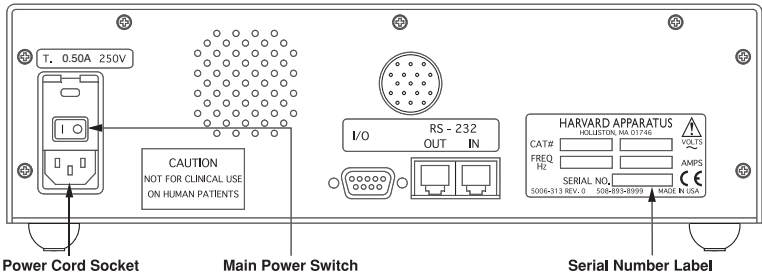

Figure 2a. Rear Panel: Power Entry and Serial Number Label
3. Take this opportunity to fill out and mail the Warranty Card. The Catalog and Serial numbers are located on the Serial Number label on the rear panel. Refer to Figure 2a.
4. Turn on main power switch (see Figure 2a) located directly above the power cord receptacle on the rear panel. The two-line display will illuminate indicating that the power connections are correct. The flashing display indicates that power has just been applied. Pressing any key will reset the blinking display to constant illumination .